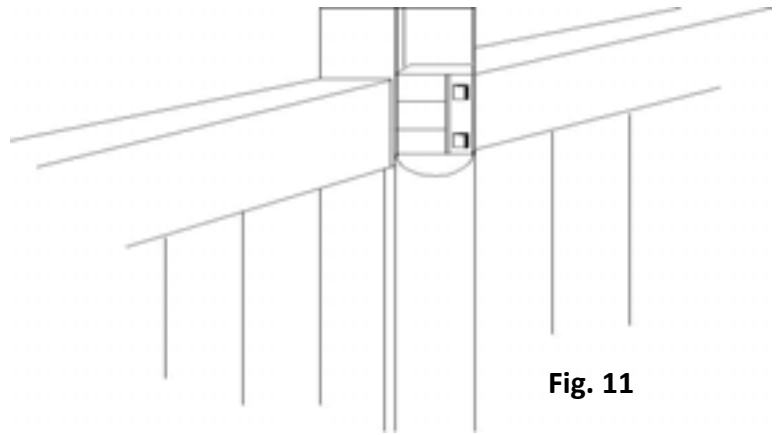

Fig. 11
Step 5. Once all the pickets are installed, slide the loose rail end into the post (Fig. 11). The notched end will lock into the post. Repeat these steps until all panels have been assembled.